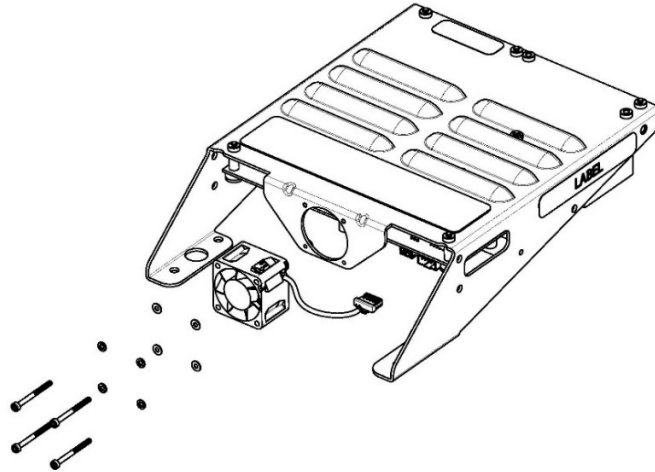

Figure 2. Closed-Top Soft Start without Adapter Board
3. Remove the four (4) mounting fasteners securing the cooling fan to the Soft Start Bracket. Be careful not to drop the fasteners onto the compressor components. Refer to Figure 2 (Closed-Top Soft Start without Adapter Board) for details.